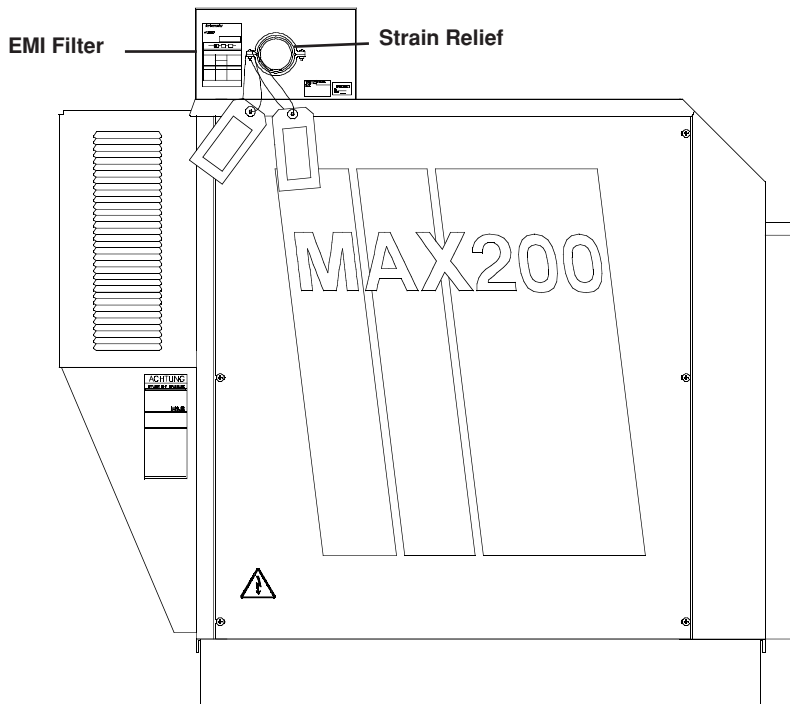

Figure d-1 MAX200 Power Supply with EMI Filter – Side View
1. Locate the EMI filter on the top rear of the power supply (see Figure d-1).
3. Insert the power cable through the strain relief (see Figure d-1).